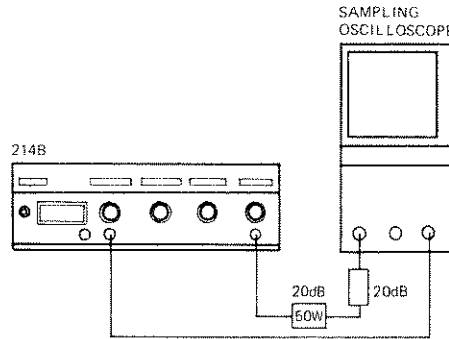

Figure 4-11
- Change Test Setup as shown in Figure 4-11 to check Double Pulse Mode. Set 214B controls as follows: